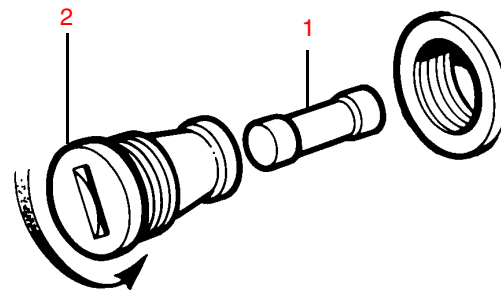

Fig. 21.1
To protect the instrument panel a 2 amp fuse is fitted to remove the fuse (1) unscrew its holder (2) (see **Fig. 21.1**).